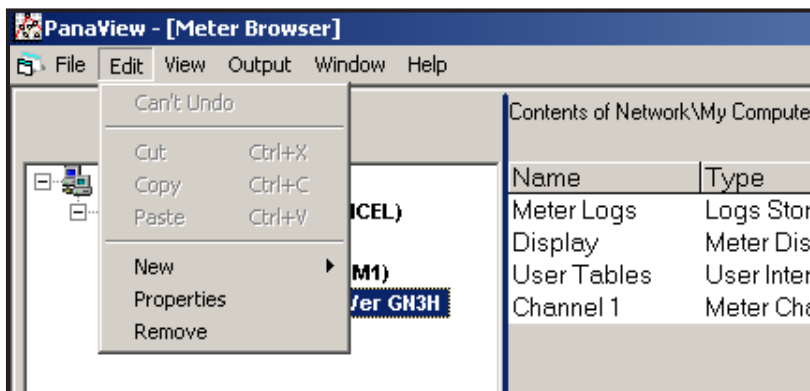

Figure 26: Properties Option in the Edit Menu
2. Open the *Edit* menu and select the *Properties* option, as shown in *Figure 26* below.